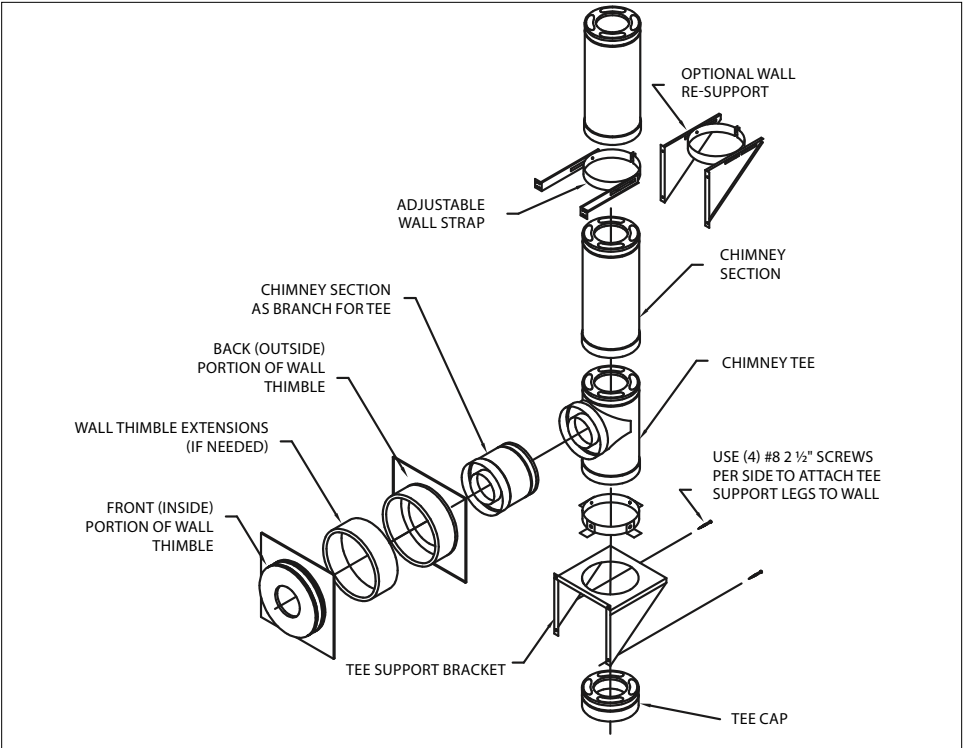
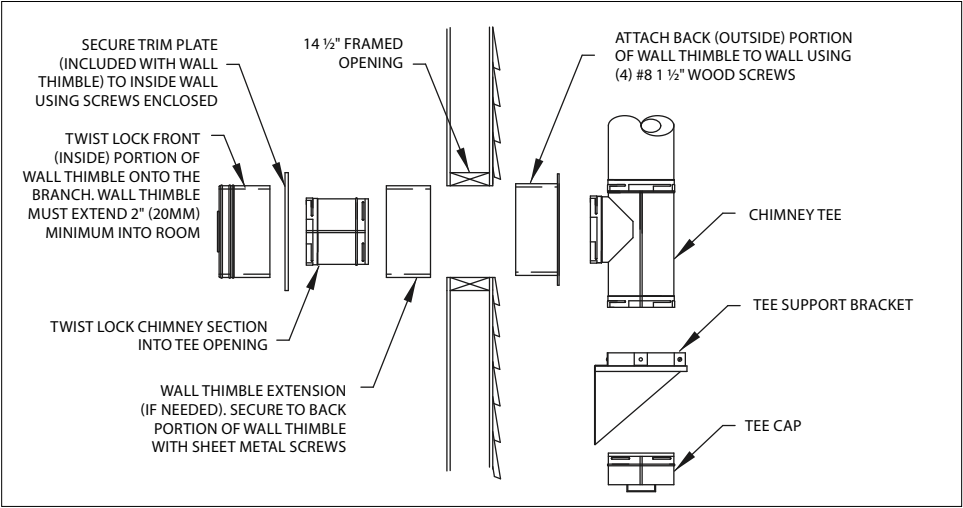
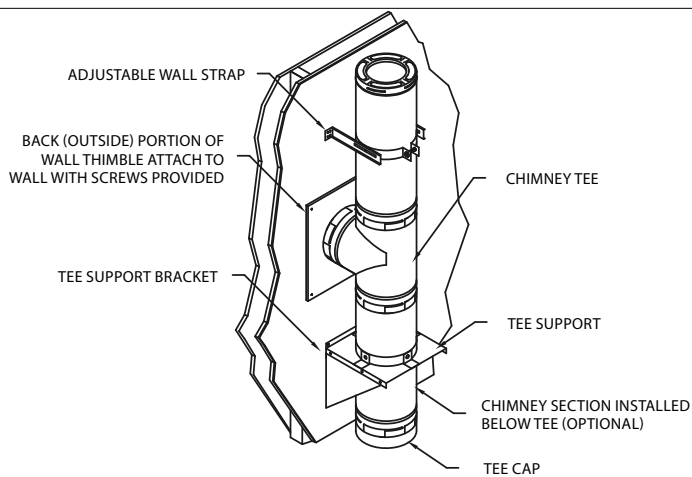

Figure 23
Figure 24
Figure 25
The Wall Thimble is a two piece unit which includes the black-painted inside portion, and the unpainted outside portion (**Fig 23 & 24**). If installing the CAS Wall Thimble, refer to the DuraPlus HTC CAS Installation Instructions for specifics on installation of that system. On the outside wall, install the back portion of the Wall Thimble. Center the back portion of the Wall Thimble (with cylindrical shield inside wall) in the framed opening of the outside wall. Attach the
back portion of the Wall Thimble to the outside wall using (4) 8-penny nails or (4) #8, 1-1/2" wood screws in the holes provided (**Fig 24**). Seal the flange of the Wall Thimble around the wall by using a non-hardening waterproof sealant. If your wall is more than 11-inches (275 mm) thick, you will need to purchase a Wall Thimble Extension, allowing installation in a wall up to 18-inches (450 mm) thick. Install the Extension by sliding the two tubes over shields of the back portion of the Wall Thimble. Do not install the front portion of the Wall Thimble at this time, but when it is installed, it will need to extend into the room at least 2" (50 mm). Make sure that when the Wall Thimble is fully installed, that the Extension (if used) will overlap both the front and back portions by at least 1" (25 mm). If the Extension is not used, then the front portion must overlap the back portion by at least 1" (25 mm). Secure the Wall Thimble Extension to the back portion of the Wall Thimble with (2) 5/8" sheet metal screws (**Fig 24**).
4. Install Tee Support: Install the Tee Support on the outside wall. Position Tee Support so that the Tee will be centered inside the Wall Thimble (**Figs 23, 24, & 25**). The Tee Support may be installed either above the Tee or below the Tee, but the Tee Support must be a maximum of one (1) chimney section away from the Tee (**Fig 25**). Important: Verify that Tee Support is level, and secure the leg brackets of the Tee Support to the wall using (4) #8, 2-1/2" screws for each side. Slide support base over leg brackets to adjust for desired clearance to wall (will adjust to allow 2" to 6" (50 mm to 150 mm) clearance to combustibles from pipe), and secure by tightening bolts. Each Tee Support can hold up to 25-ft of chimney. If additional support is needed, another Tee Support can be installed or you may install a Tee Re-Support.
provide 2"-6" (50-150 mm) clearance from combustibles. To install the Tee Re-Support, mount the two triangular side brackets in position using (4) #8 2-1/2" screws for each bracket. Mount the band around the chimney pipe. If the chimney is 7" or 8" in diameter, add in the corresponding band section so the band of the Tee Re-Support wraps completely around the chimney. If the chimney is 6" diameter, no additional band section is needed. Slide the supporting bolts of the Band through the slots of the Tee Re-Support and adjust to provide the clearance needed (**Fig 23**).
5. Install Tee and Cleanout Chimney Section: The Tee can be mounted directly to the Tee Support or it be twist locked onto a desired length of Chimney to be used as the cleanout section. Use only one chimney section (any length) to attach to bottom of the Tee. Tighten support band around the Tee or Chimney section, as appropriate, at the proper height to insure that Tee is centered through Wall Thimble (**Fig 24**). Use the 1/2" (13 mm) sheet metal screws provided to insure a tight connection between support band and chimney section. Connect support band to support base using the 1/2" (13 mm) sheet metal screws provided (**Fig 25**). Twist
6. Install Branch onto Tee: From inside the home, attach a section of chimney to be used as the branch for the Tee. Depending on your wall thickness, you can use from a 6" section up to a 24" section (*see Wall Thickness Chart*). The Branch must be installed so that it will be connected to the front-portion of the Wall Thimble when it is installed, and the Wall Thimble must extend at least 2" (50 mm) into the room (**Fig 24**). The front portion of the Wall Thimble must overlap the back portion by at least 1" (25 mm). If your wall is over 11" (275 mm) thick, then you must use an Wall Thimble Extension which will allow the Wall Thimble to be installed in walls up to 18" (450 mm) thick. The Wall Thimble Extension must overlap both the front and back portions of the Wall Thimble by at least 1" (25 mm). Secure Wall Thimble Extension in place by using (2) 1/2" (13 mm) sheet metal screws to secure it to the back portion of the Wall Thimble (**Fig 24**). Use high-temperature sealant (500°F/260°C) to seal between the Wall Thimble and the Chimney on the outer wall.
Wall Thimble must be at least 2" (50 mm) into the room and the starter section within the front portion must twist locked into the female end of the Branch (**Fig 24**). The front portion of the Wall Thimble must also overlap the back portion of the Wall Thimble (or the Wall Thimble Extension) by at least 1" (25 mm). Using the (4) screws supplied, secure the Wall Thimble Cover to the inside wall.
8. Complete Chimney: Attach the Chimney Sections as in **Step 7** in the Ceiling Supported Installation section. Wall Straps (or Extended Wall Brackets, where appropriate) must be attached to the chimney at least every 8-feet (2.4 m), and maintain at least 2" (50 mm) clearance to combustibles. The Wall Straps are adjustable to allow from 2" - 6" (50 mm - 150 mm) clearance to combustibles from the chimney. Mount the side brackets of the Wall Strap onto the wall at the necessary location using the (4) #8 1-1/2" wood screws (or appropriate fastener for the surface). Mount the band around the chimney pipe. If the chimney is 7" or 8" in diameter, add in the corresponding band section so the band of the Wall Strap wraps completely around the chimney. If the chimney is 6" diameter, no additional band section is needed. Slide the supporting bolts of the Band through the slots of the Wall Strap bracket and adjust to provide the clearance needed (**Figures 23, 25**). Slip the Wall Straps around the chimney, tighten the bolts, adjust the clearance, and fasten the Wall Straps to the wall with (4) #8, 1-1/2" long wood screws.